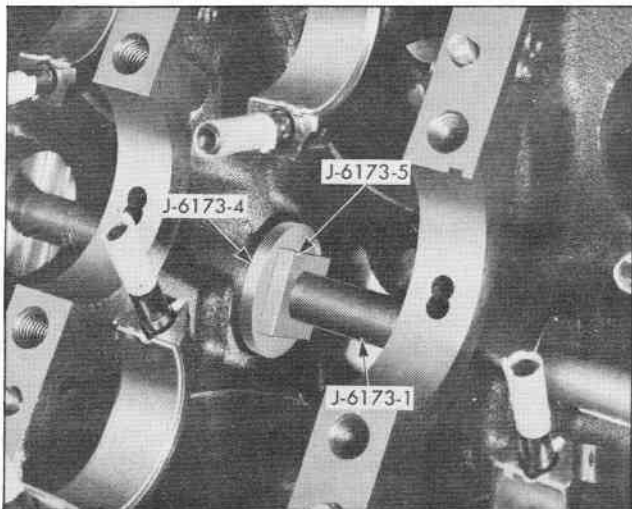

Fig. 3 Preparing To Remove Bearing
5. Slip Key J-6173-5 into notches in shaft behind bearing to be removed (Fig. 3).